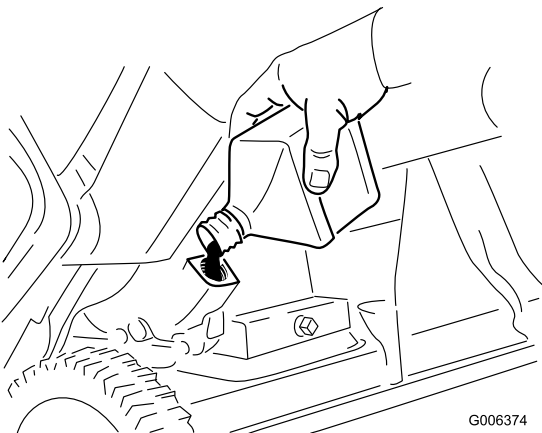

Figure 23
8. With the machine in the operating position, **carefully** pour oil into the oil-fill hole to the point of overflow (Figure 23).